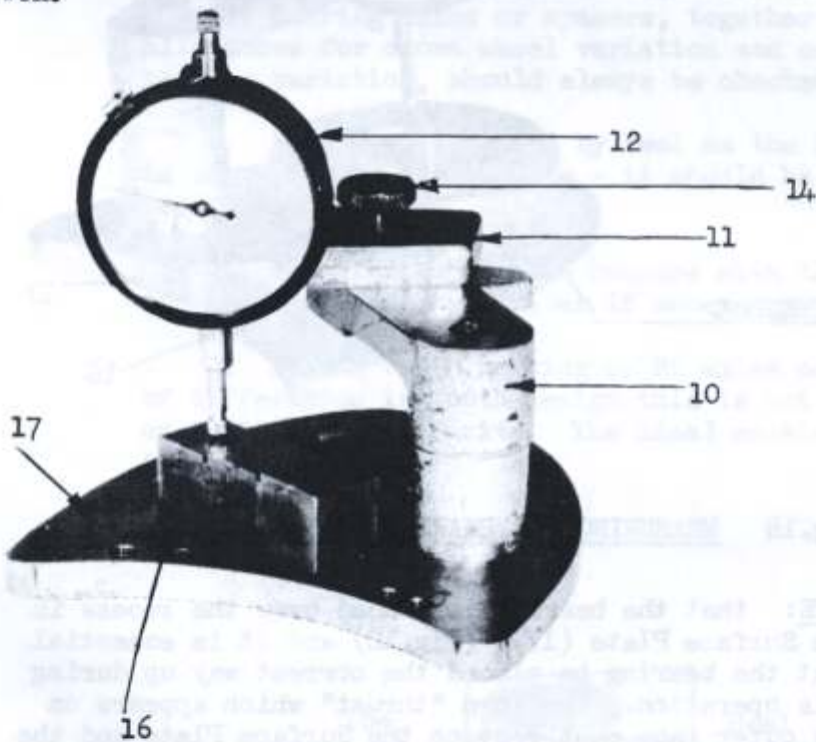

Fig. 17 ZEROING THE GAUGE.
We measure the actual variation by using the dial gauge to compare the bearings to be used, with standard dimensions given by a zero block (16) (Fig.17). This block should not be confused with the Pinion Depth Zero block.